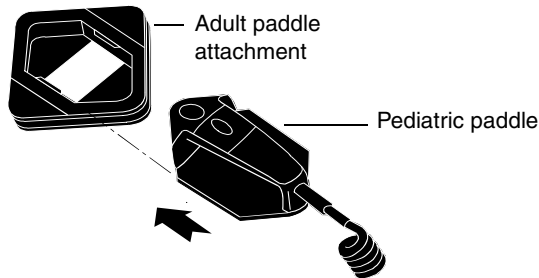

Figure 5-11 Replacing a Pediatric Paddle
- 3 Slide the paddle handle forward until you hear a click. (Refer to Figure 5-11.)